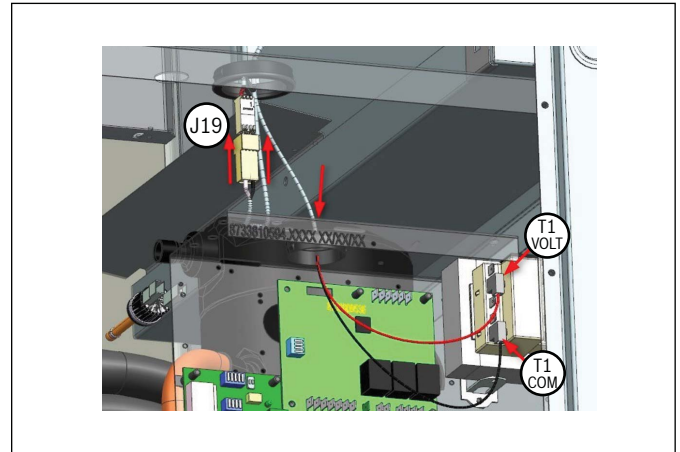

Figure 37
7. Taking this single connector from step 6, connect it to the J19 connector on the Electric Heat wiring harness (red and black wires). Feed the T1 VOLT and T1 COM wires (two wires) through the top hole into the unit control box. Plug the T1 VOLT (red) into the transformer 240 V or 208V. Plug T1 COM (black) wire into the transformer COM. Typical connections are shown in figure 37.